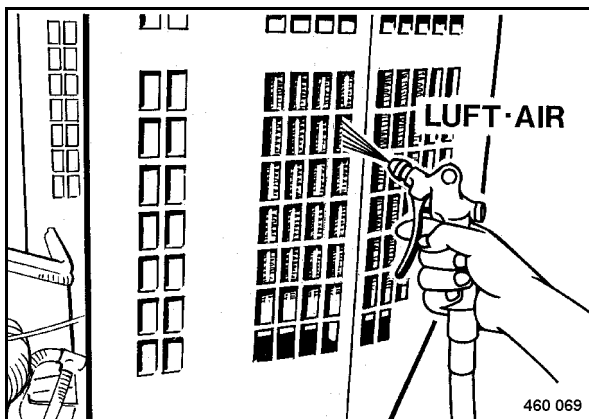

Fig. 108
- Blow the hydraulic oil cooler (Fig. 108) out from the air discharge side first.